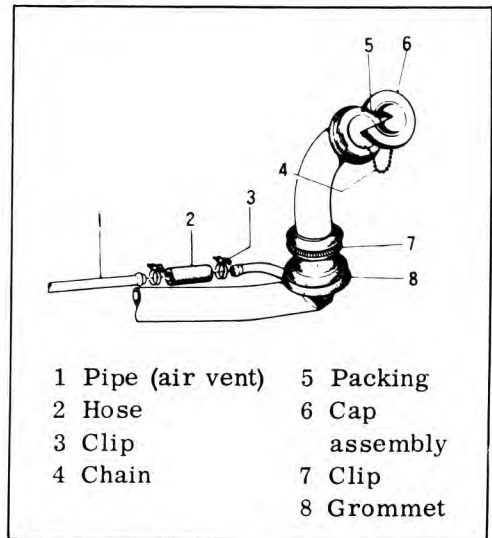

Fig. 9-17 Filler pipe disassembly
- (d) The filler pipe is disassembled as shown in Fig. 9-17.